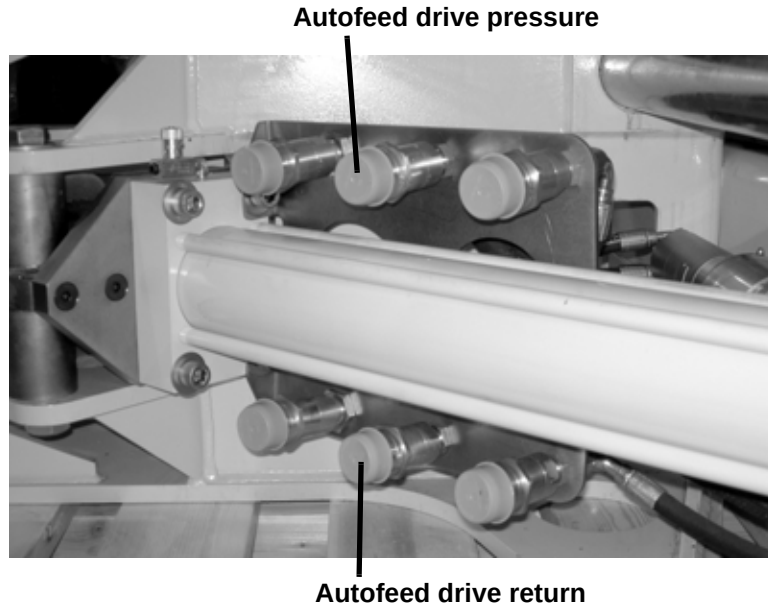

Figure 5-36. Connect the hydraulic autofeed drive hoses to the saw as shown.
3. For machines with hydraulic autofeed, connect the autofeed drive hoses from the TCU or hose reel to the fittings on the saw bulkhead as shown in Figure 5-36.